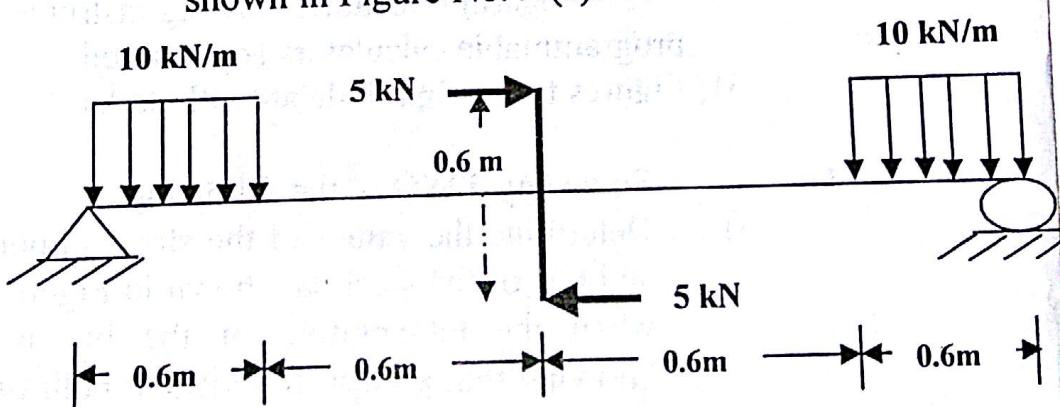

Figure No. 2 (a)
- a) Draw the shear force and bending moment diagrams (S.F.D. and B.M.D.) for the beam as shown in Figure No. 2 (a).